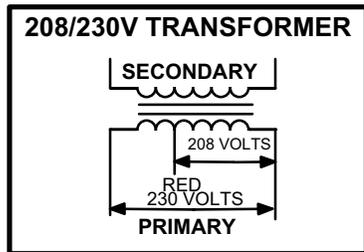

FIGURE 3
Units use a single line voltage to 24VAC transformer mounted in the control box. Transformer supplies power to CMC1 and control circuits in the unit. The transformer is rated at 70VA and is protected by a 3.5 amp circuit breaker (CB8). The 208/230 (Y) voltage transformers use two primary voltage taps as shown in figure 3, while
primary voltage taps as shown in figure 3, while 460 (G) and 575 (J) voltage transformers use a single primary voltage tap.